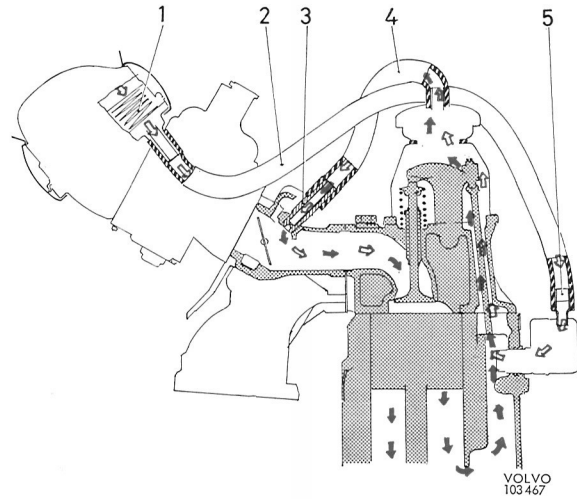

Fig. 2-22. Positive crankcase ventilation
Between the valve cover and the intake manifold there is a hose (4, Fig. 2-22). It is connected to the intake manifold by a calibrated nipple (3). (This nipple should be cleaned every 40.000 km=24.000 miles. Between the oil trap, which is connected to the crankcase, and the air cleaner there is a hose (2) connected for the fresh-air supply. At the connection to the oil trap there is a flame arrester (5), which consists of a metal filter. The partial vacuum which arises in the intake manifold when the engine is running, causes a partial vacuum in the valve cover and crankcase through the hose (4). Fresh air is supplied to the crankcase through the air cleaner via the hose (2).